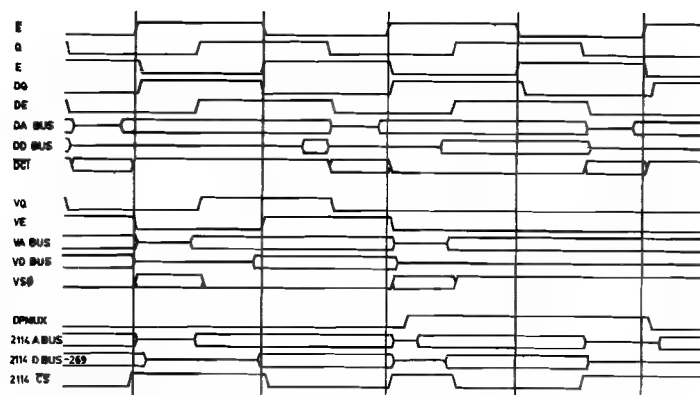

FIGURE 3-2 DUAL PORT RAM TIMING
1. The Data Processor runs in quadrature with (one quarter clock cycle ahead of) the Video Processor. In other words, E is inverted for use as DQ, and Q becomes DE. Refer to Timing Diagram, Figure 3-2.